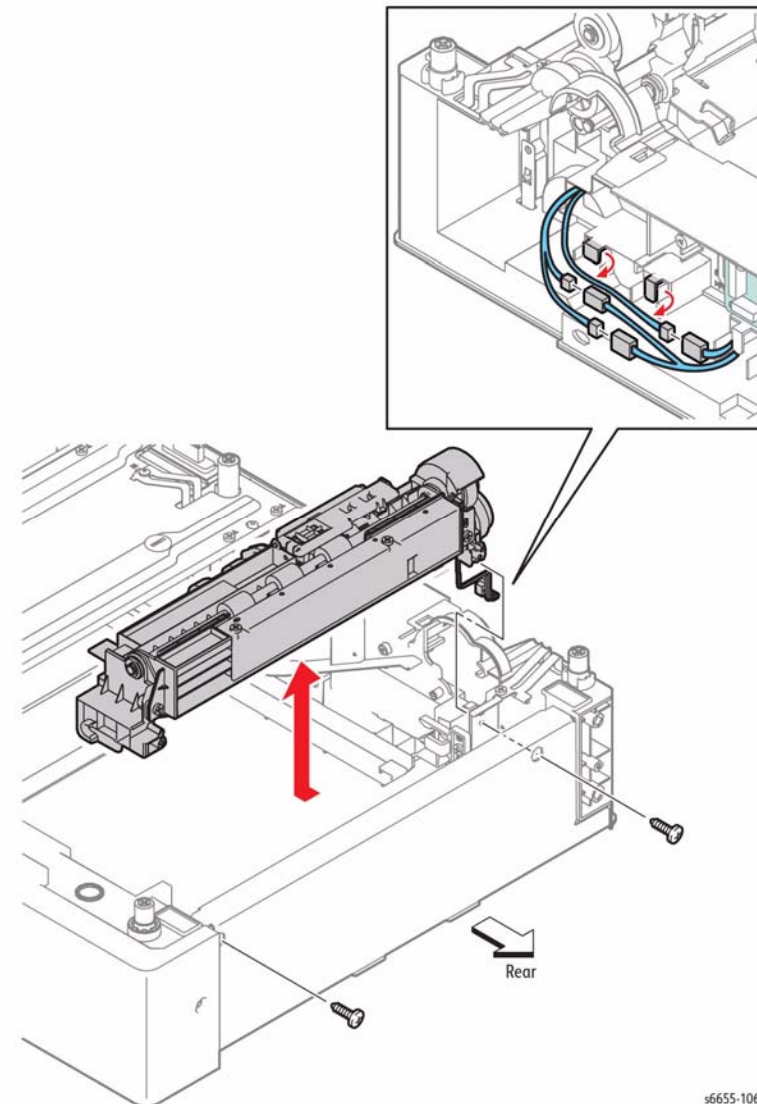

Figure 1 Remove the 550 Option Main Feed Assembly
4. Refer to Figure 1 to locate and remove the two screws (silver, tapping, 8 mm) that attach the 550 Option Main Feed Assembly and remove the 550 Option Main Feed Assembly while pulling the harness out of the hole on the frame.